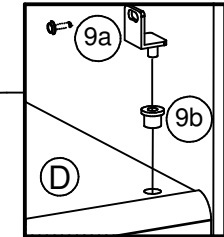

figure 3/figure 3/chiffre 3
- * Install a BUSHING (9b) and a PIVOT HINGE (9a) as shown in figure 3.